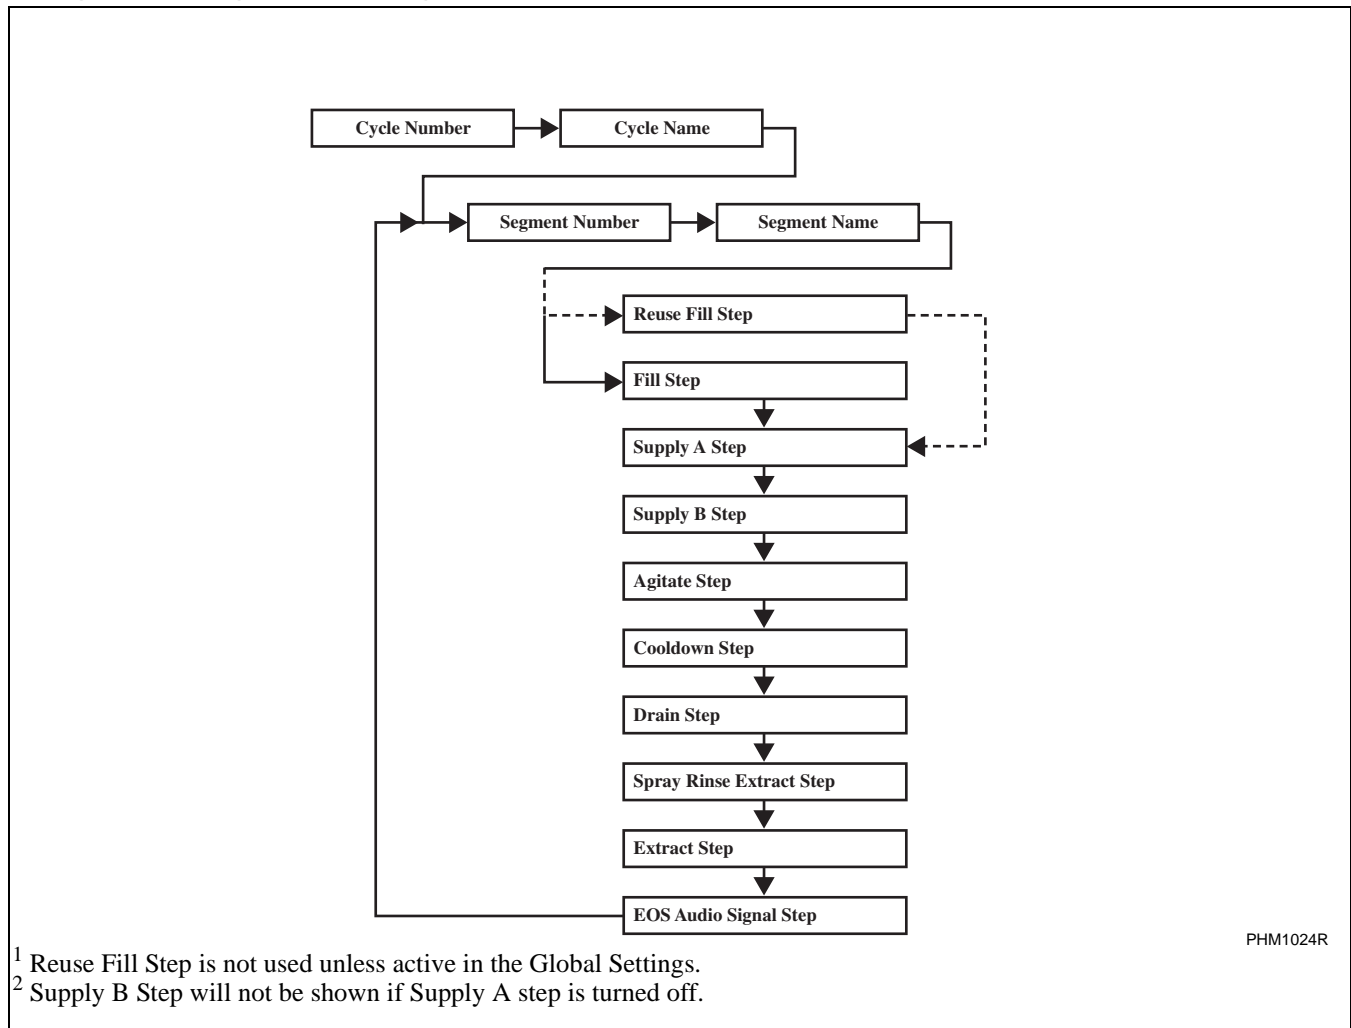

Figure 27
**NOTE: All segments and available steps have to be scrolled through even though they may be shut off. Figure 27 illustrates the flow of the cursor during the programming of a cycle.**